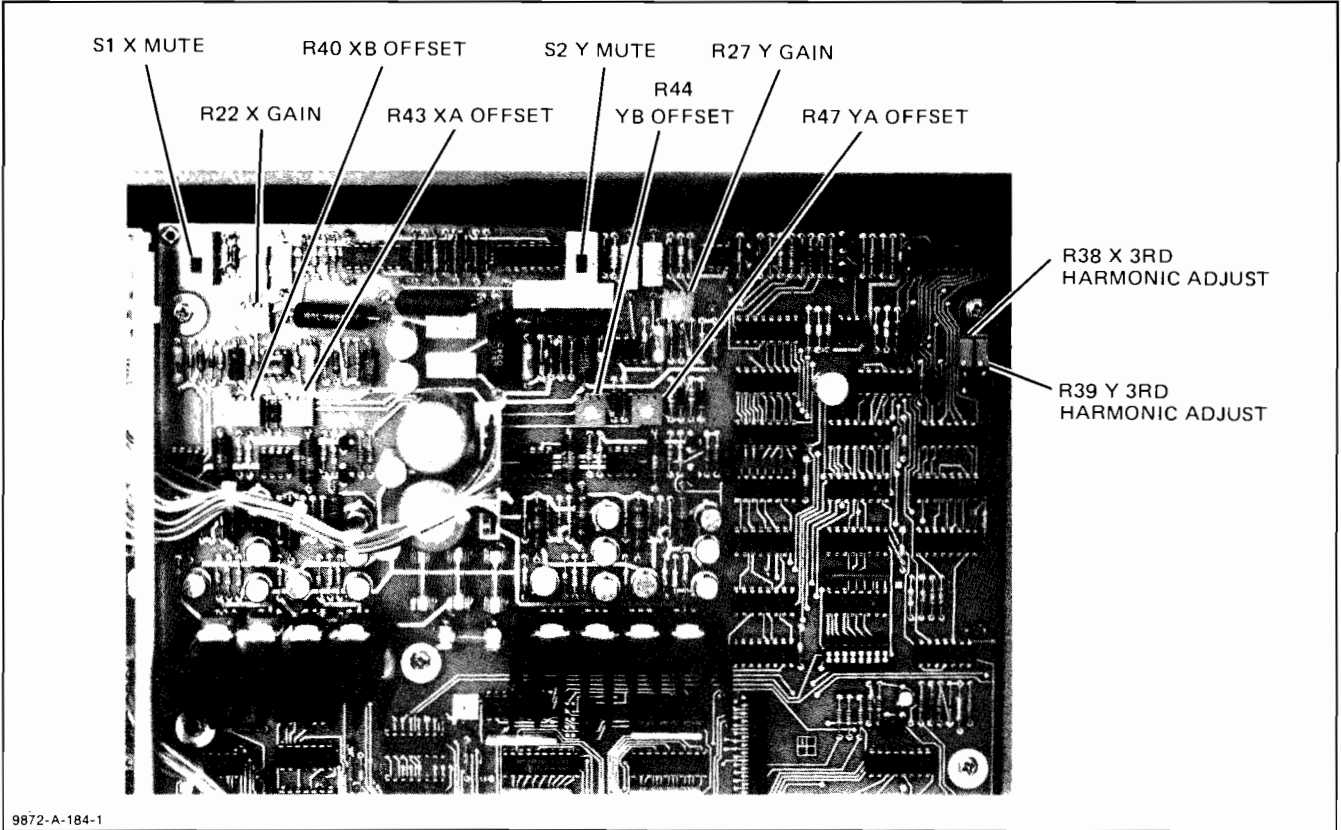

Figure 3-2. Electrical Adjustment Location
- c. Set the Y-MUTE S2 to the OFF position. See Figure 3-2 for switch and adjustment locations.